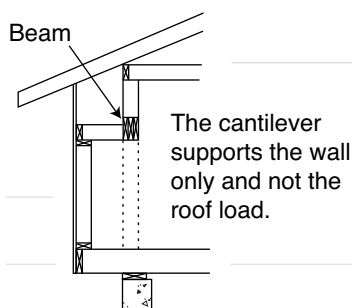

FIGURE 17
- ◆ In rooms that are enlarged by cantilevering the floor joists, designers should consider using beams to carry roof loads across the openings. Loads are then transferred directly to the foundation with no impact on the floor system (see Figure 17).